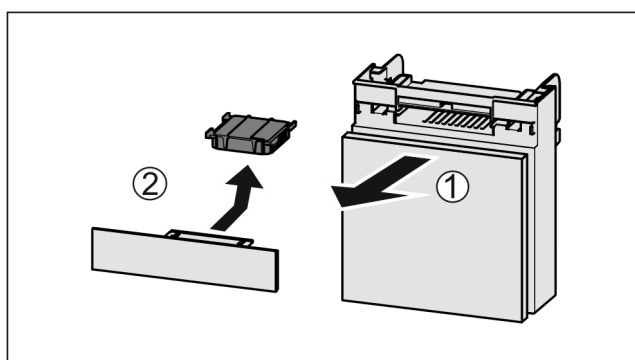

Fig. 121
- ▶ Pull out the compartment Fig. 121 (1).
- ▶ Remove the carbon filter Fig. 121 (2).